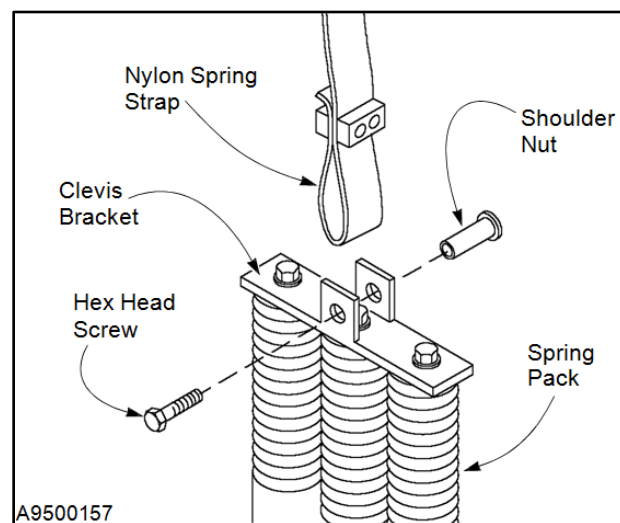

Figure 56
11. Attach the loop end of the new spring strap to the spring pack using the saved hardware. Make sure the strap is hanging straight and not twisted. (See Figure 56.)